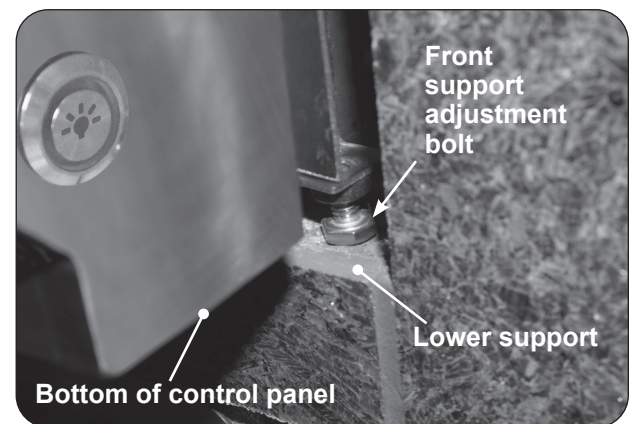

Fig. 21-3 Front support adjustment bolts
2. Rotate the front support adjustment bolts (up or down) until the grill hanger rests flush on the countertop, AND, the adjustment bolts are touching the supporting structure found at the bottom of the cutout (lower support). Use a 7/16" open-end wrench as needed. See Fig. 21-3.